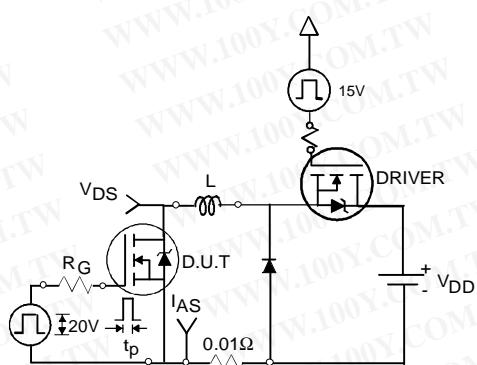

Fig 12a. Unclamped Inductive Test Circuit
- ④ Pulse width $\leq 400\mu\text{s}$; duty cycle $\leq 2\%$.
- ⑤ $C_{\text{oss eff.}}$ is a fixed capacitance that gives the same charging time as C_{oss} while V_{DS} is rising from 0 to 80% V_{DSS} .
- ⑥ Calculated continuous current based on maximum allowable junction temperature. Package limitation current is 75A.
- ⑦ Limited by $T_{J\text{max}}$, see Fig.12a, 12b, 15, 16 for typical repetitive avalanche performance.
- ⑧ Uses IRF1407 data and test conditions.
3. Equation below based on circuit and waveforms shown in Figures 12a, 12b.